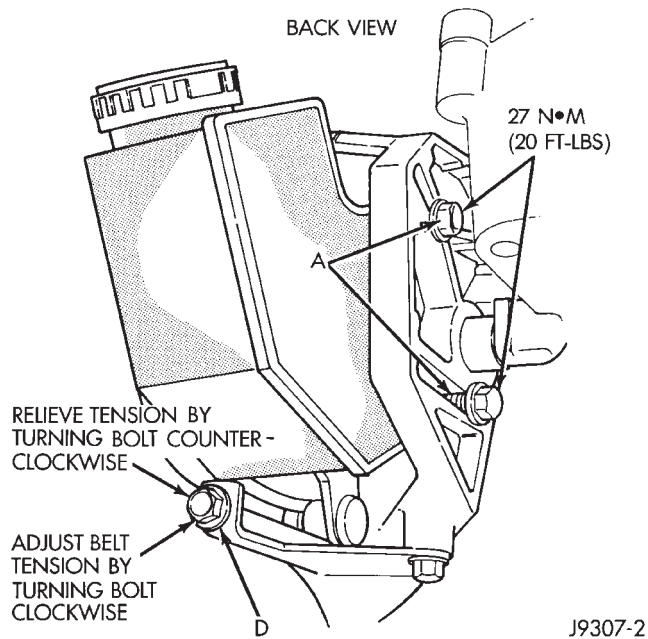

Fig. 5 P.S. Pump Rear Mounting Bolts—Typical
(a) Loosen two rear power steering pump mounting bolts A (Fig. 5).
(c) Loosen pump adjusting bolt D (Fig. 5) until belt can be removed.
(7) Remove two bolts A (Fig. 5).
(11) Position drive belt to pulleys.
(12) Tighten belt adjustment bolt D (Fig. 5) to the proper tension. Refer to the Specifications section at the end of this group for belt tension.
(13) Tighten bolts A (Fig. 5) to 27 N·m (20 ft. lbs.) torque.